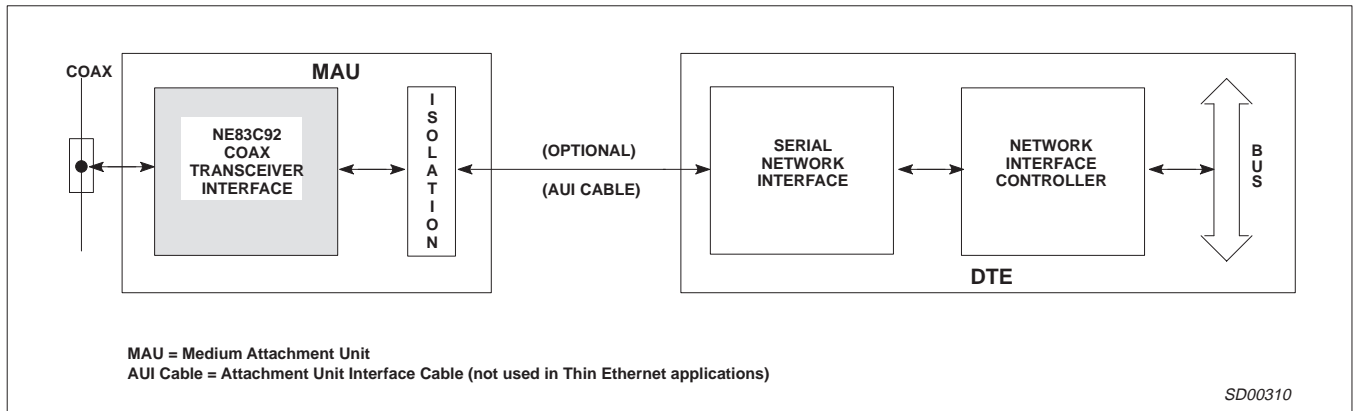

Figure 4. Interface Diagram for Ethernet/Thin Ethernet Local Area Network
- Measured on secondary side of isolation transformer (see Figure 4). The transformer has a 1:1 turn ratio with an inductance between 30 and $100\mu\text{H}$ at 5MHz.